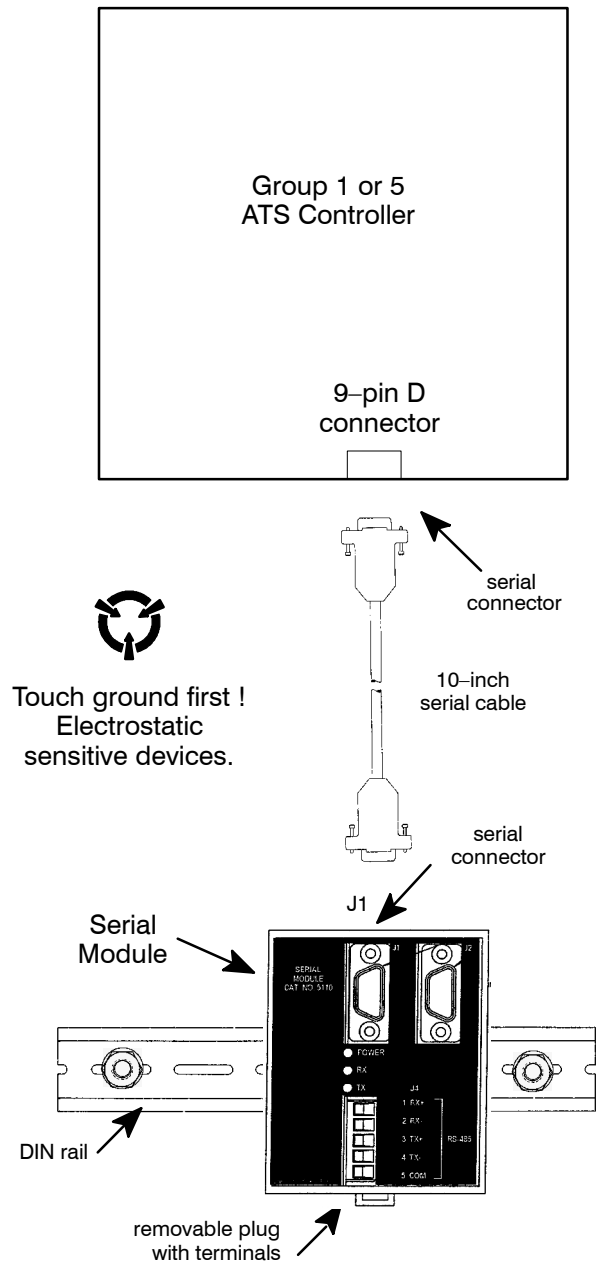
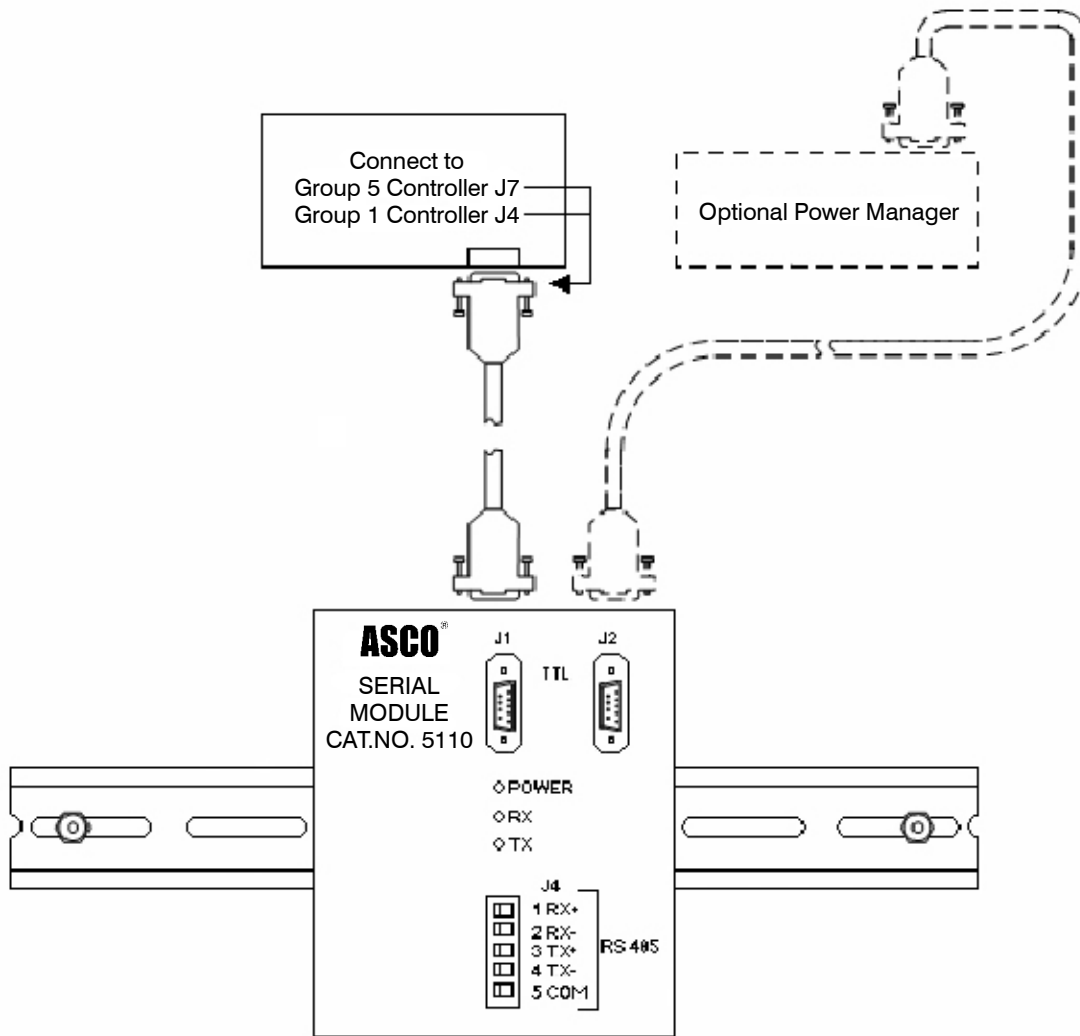

Figure 1. Serial Module mounted on DIN rail.
Figure 2. Serial Module connections to ATS Controller and Power Manager..
The Serial Module mounts on a DIN rail directly under the ATS controller. See Figure 1 and Figure 2.
2. If a Power Manager is present, connect the 4-foot serial cable between the Power Manager receptacle J5 and the Serial Module receptacle J2.* See Figure 2.